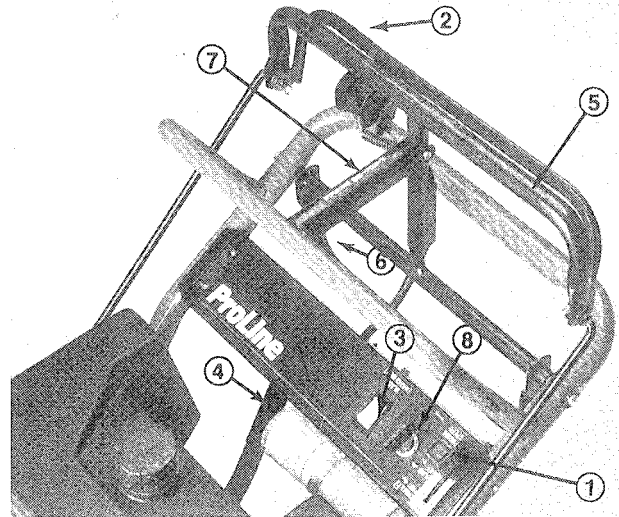

Figure 11
**Throttle Control (Fig. 11)** – The throttle control has three positions: CHOKE, FAST and SLOW.
**Deck Engagement Control Bail (Fig. 11)** – Control bail used in conjunction with deck engagement switch to release blade brake and engage electromagnetic clutch to drive deck pulleys. Release bail to disengage deck pulleys.
**Deck Engagement Switch (Fig. 11)** – Rocker switch used in conjunction with control bail to release blade brake and engage electromagnetic clutch to drive deck pulleys.
**Gear Shift Lever (Fig. 11)** – Transmission has four forward speeds, neutral and reverse, and has an in-line shift pattern. Do not shift while unit is moving, as transmission damage may occur.
**Upper Control Bar (Fig. 11)** – Shift to desired gear and push forward on control bar to engage forward traction operation and pull back to brake. Pull right side of control bar to turn right and left side to turn left.
**Lower Control Bar (Fig. 11)** – Shift transmission to reverse and pull rearward on lower control bar to engage rearward traction operation.
**Parking Brake Lever (Fig. 11)** – Pull back on upper control bar and swing brake lever up against the upper handle.
**Ignition Switch (Fig. 11)** – Key switch is used in conjunction with recoil starter. Switch has two positions: RUN and OFF.